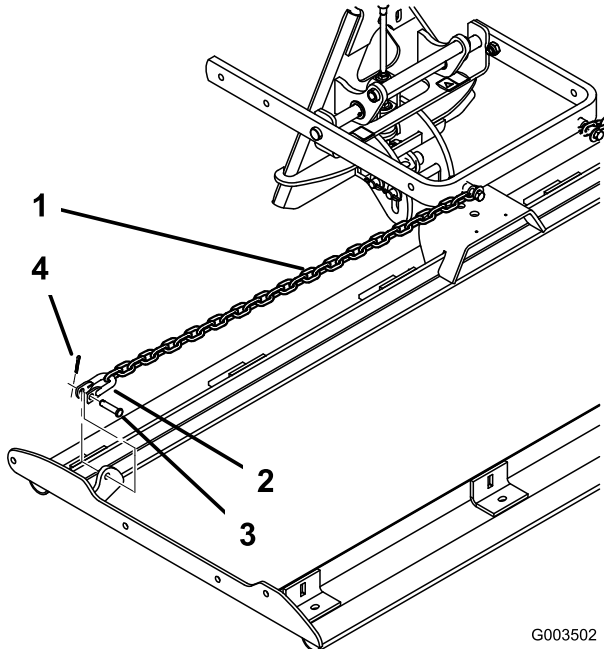

Figure 5
3. Thread a shackle through the bottom link of each chain on the lift arm (Figure 5).
4. Secure each shackle to the drag-mat-carrier assembly as illustrated in Figure 5 using a clevis pin (3/8 x 1-1/2 inches) and a cotter pin.